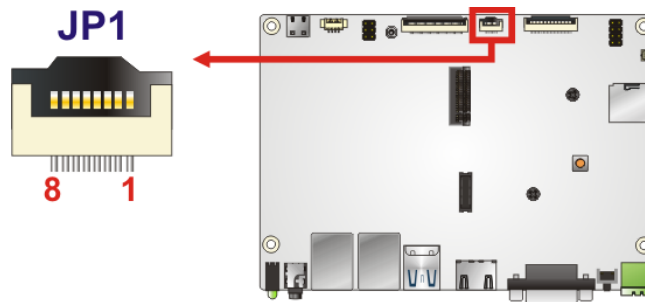

Figure 3-13: Touch Location
- CN Location:** See **Figure 3-13**